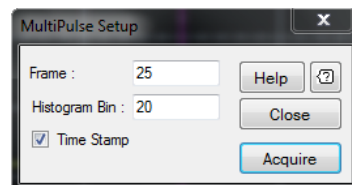

Figure 2-89 MultiPulse Setup dialog
- 2 The MultiPulse Setup dialog is displayed as shown in Figure 2-89 to allow you to configure the multipulse display.